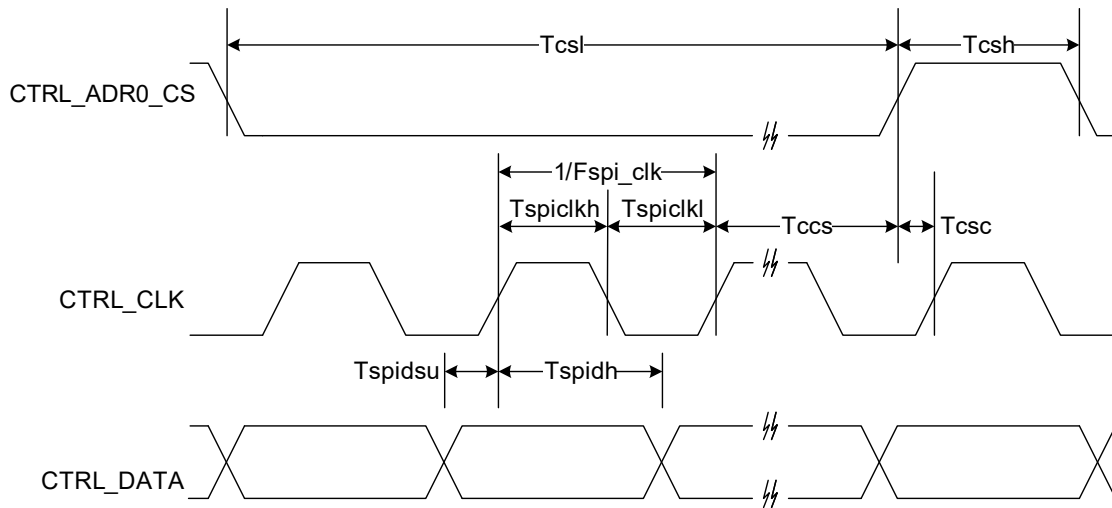

Figure 6. SPI Timing
SPI BUS TIMING(4) See <a href="#">Figure 6</a> .